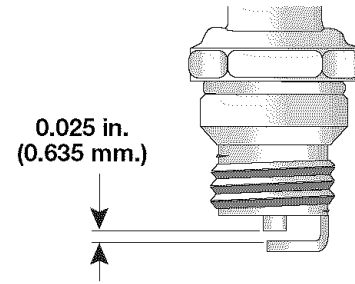

Fig. 23
3. Replace cracked, fouled or dirty spark plug. Set the air gap at 0.025 in. (0.635 mm.) using a feeler gauge (Fig. 23).